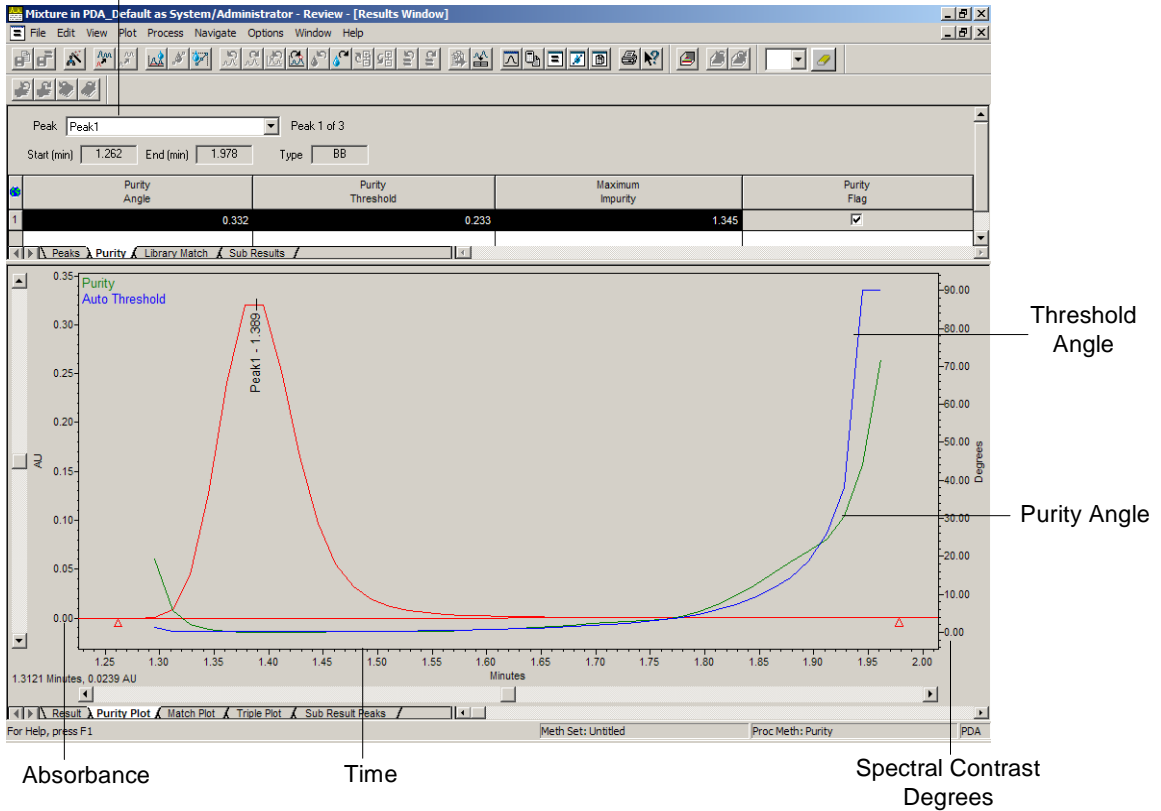

Figure 3-29 Purity Plot
2. Click the **Purity** tab in the top pane and the **Purity Plot** tab in the bottom pane of the Results window. The Purity plot (Figure 3-29) displays the currently active (selected) chromatographic peak and plots the Purity Angle and the Purity Threshold values across the entire peak. Note that the left y-axis is in absorbance units and the right y-axis is in Spectral Contrast degrees. The Purity tab displays the purity information for each peak in a numerical format. Select each peak using the Peak list (Figure 3-29).
3. Select the next peak in the Peak list (Figure 3-29) to display the Purity plot for the next peak at 2.165 minutes. The Purity Angle is above the Threshold Angle in the early region of the peak, which indicates that the peak is not spectrally homogeneous in this region.
4. Select the next peak in the Peak list (Figure 3-29) to display the Purity plot for the next peak at 3.931 minutes. The Purity Angle is below the Threshold Angle throughout the entire peak, which indicates that the peak is spectrally homogeneous.